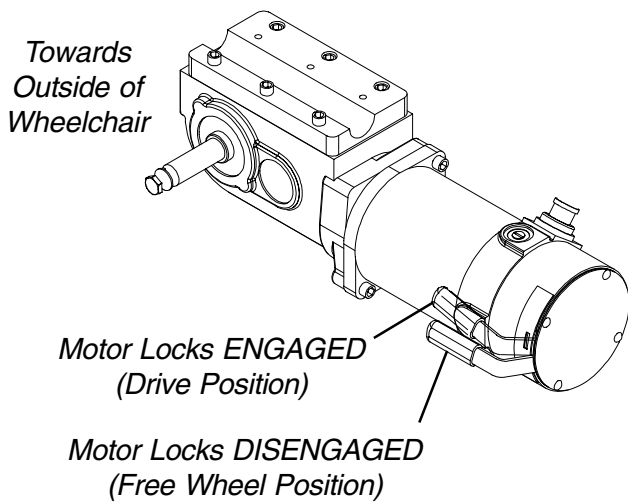

FIGURE 3 - ENGAGING/DISENGAGING MOTORS WITH MOTOR LOCKS
**ENGAGING/DISENGAGING MOTORS WITH MOTOR LOCKS (FIGURE 3)**